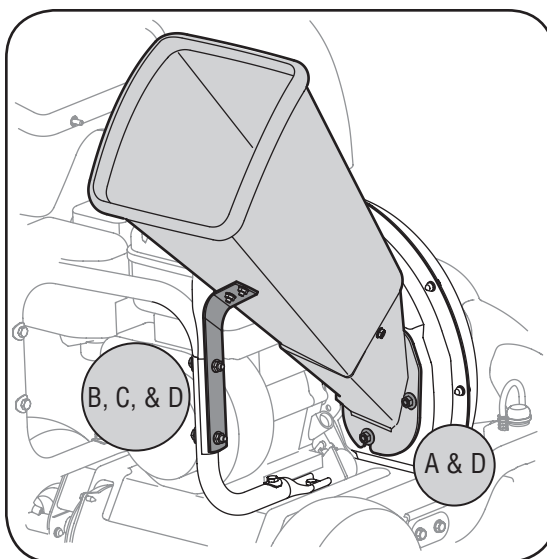

Figure 3-5
5. a. Place the chipper chute over the weld studs keeping the slotted side towards the bottom. Loosely secure with the three hex nuts and bell washers that were removed earlier. Do not fully tighten the hex nuts at this point in the assembly. See Figure 3-5.
- c. Replace the hex bolts, saddle washers and flange nuts to affix the support bracket to the handle assemblies. See Figure 3-5.